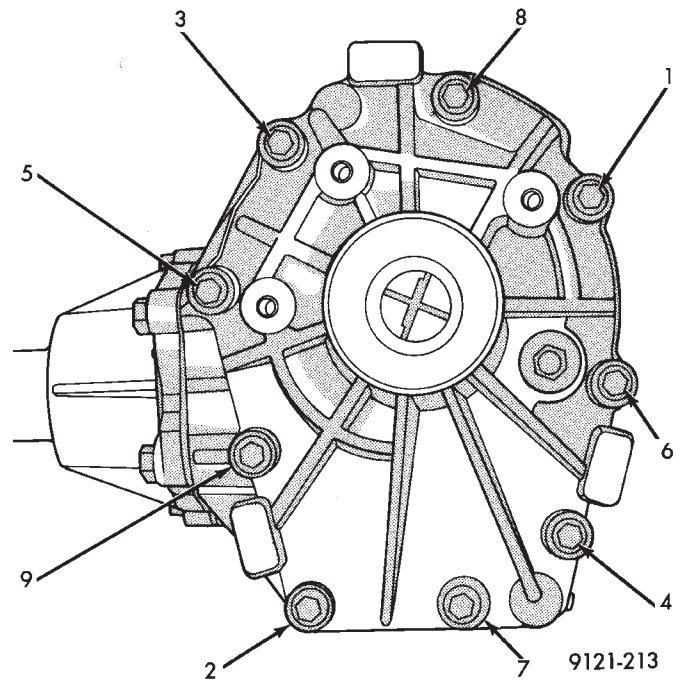

Fig. 5 Bolt Tightening Sequence
(4) Place end cover onto P.T.U. case and install bolts. Tighten bolts to 28 N•m (250 in. lbs.) in the sequence shown in figure 5. Retighten first bolt after all other bolts are tight.